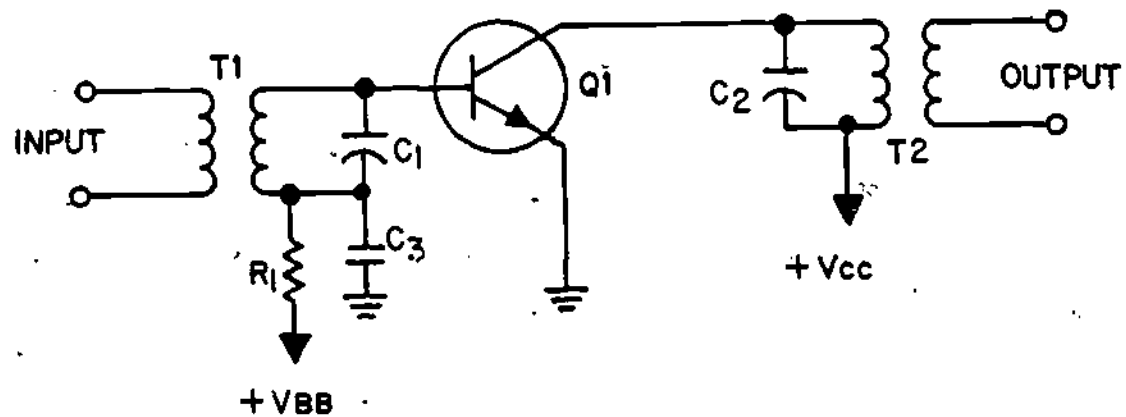

Figure 3
5. If we put these transformers into our basic amplifier, we have the circuit shown in Figure 3.
Which transformer(s) in Figure 3 is/are tuned?